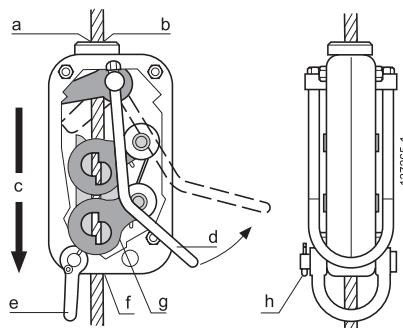

Fig. 1
The Blocstop™ type BS fall arrest device (fig. 1) is basically formed by a system of self-clamping jaws (item g, fig. 1) mounted in a zinc-plated steel casing.
The unit is connected by its shackle (item e, fig.1) to an anchor point (item 8, fig. 21) with a sling.
So long as the wire rope (item b, fig.1) moves in the fall arrest device in the pulling direction indicated by the arrow (item c, fig.1), the jaws automatically open and allow the wire rope to slide. Conversely, as soon as the wire rope in the fall arrest device moves in the opposite direction, with respect to the pulling direction (item c, fig.1), the jaws immediately close on the wire rope and, as with the TIRFOR® principle, clamp the wire rope with a force proportional to the load.
To allow controlled descent of the load, the Blocstop™ fall arrest device can be unlocked by pulling on the stirrup (item d, fig. 1) in the direction of the arrow. This operation can only be performed provided there is no load on the fall arrest device. A return spring keeps the stirrup in place against the fall arrest device (shown by bold dotted line in fig. 1).
The shackle (with its cotter pin) (item e, fig. 1) is mounted on the fall arrest device optionally.
Without shackle (item e, fig.1)	With shackle (item e, fig.1).
Unlock stirrup (item d, fig.1)	With handle (item 1, fig.10) in place of stirrup (item d, fig.1) for models 15.301, 20.301, 35.30 only.